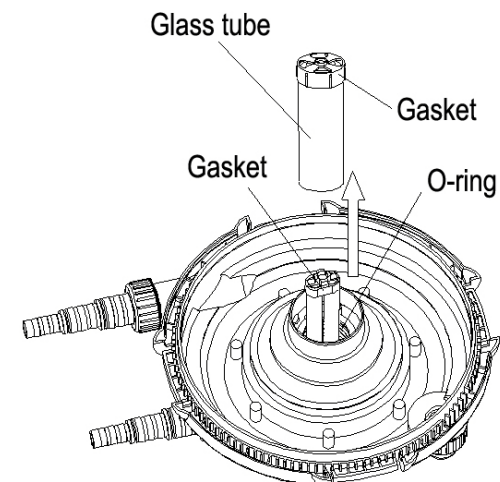

Figure 10
2. The quartz glass tube around the UV-lamp is sensitive for calcium deposits which will inhibit the performance of the UV-C lamp. Clean the quartz glass tube with a mild lime scale remover (like cleaning vinegar). Then reassemble all the parts making sure that the o-rings and gaskets are correctly placed (See figure 10).